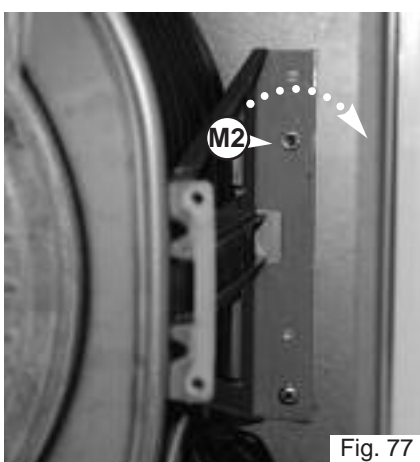

Fig. 77
6. Remove the screw M2; then rotate clockwise the bearing frame (Fig. 77);